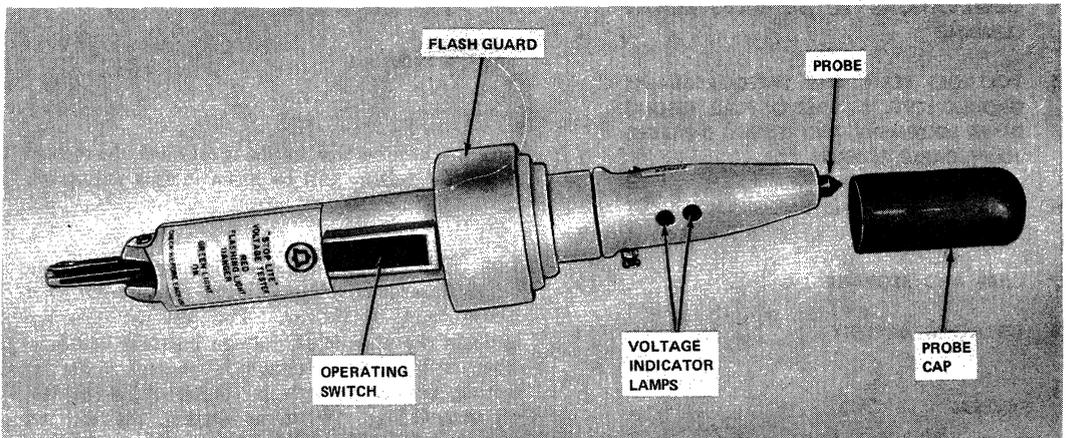
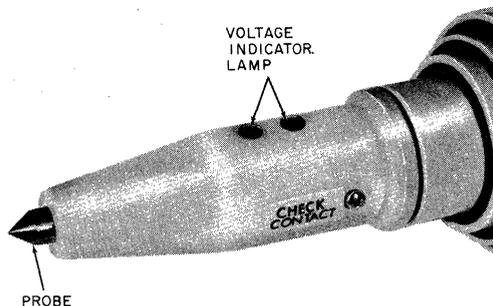

Fig. 1—188A Test Set
Fig. 2—Voltage Indicators
- 3.01 The 188A test set (Fig. 1) is a yellow plastic two-piece unit that weighs approximately 1 pound. The front housing contains the carbide probe tip and the light emitting diode (LED) voltage indicators (one green and one red), Fig. 2.